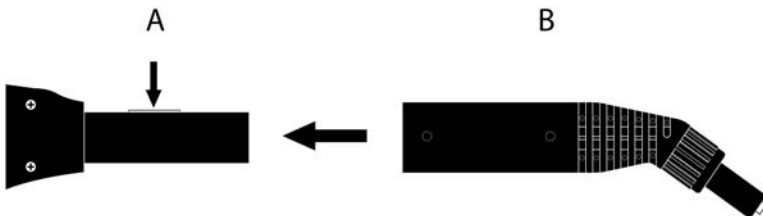

FIGURE 2
1. Depress red lock/release button on main steam nozzle (FIGURE 2-A).
2. While still depressing lock/release button, slide Steam Jet Nozzle or other accessory over this button, so that rectangular hole in attachment aligns with lock/release button (FIGURE 2-B).